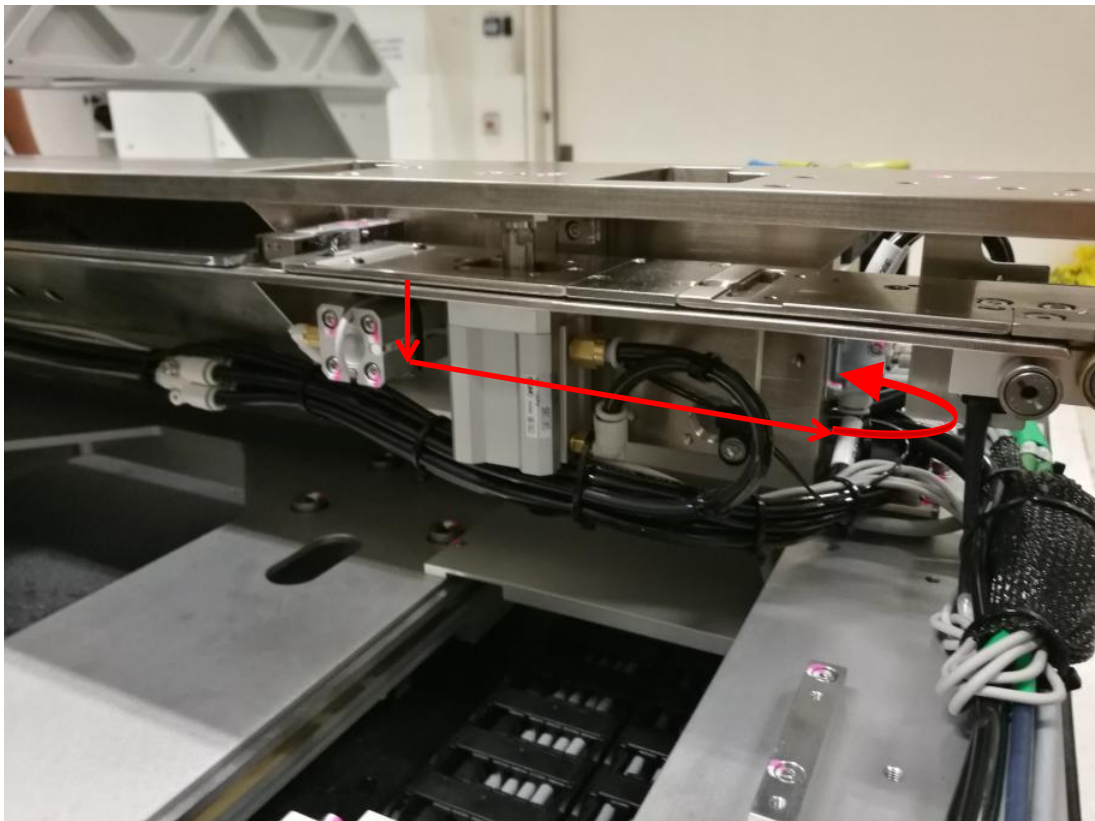
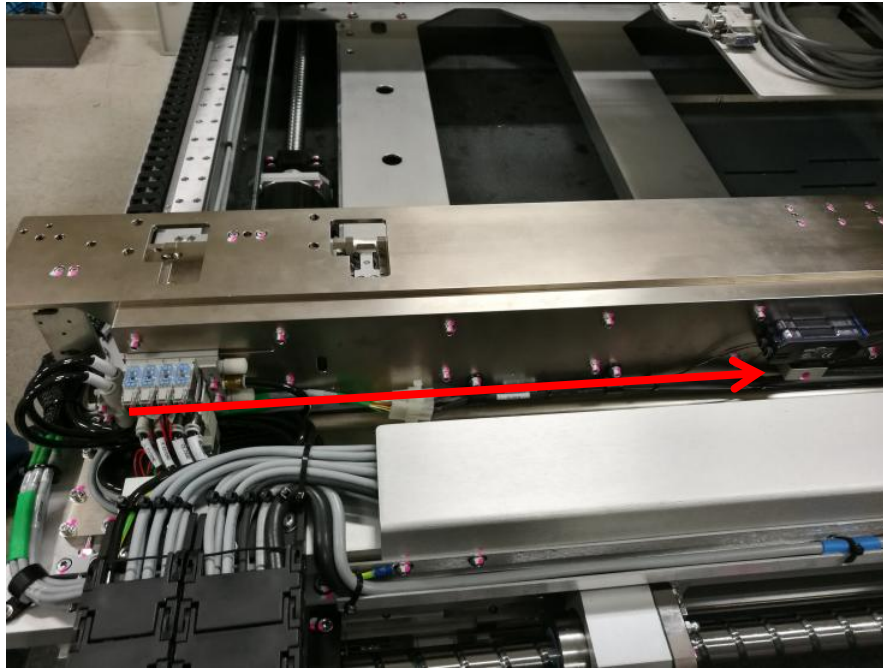

Figure 15 PIP Sensor Cable Routing
Figure 16 PIP Sensor Cable Routing
8. Route PIP Sensor Cable to Left Amplifier by refer to below routing. May refer to Figure 15 & Figure 16.